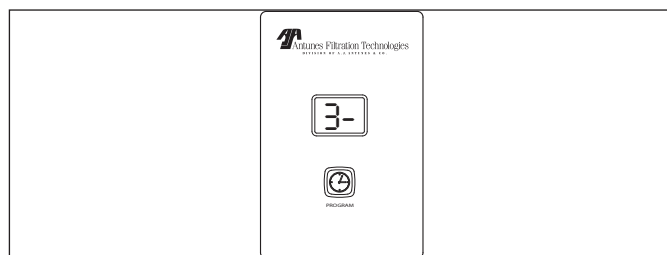

Figure 12. LED Display for Flush Duration
2. When **Fd** is displayed (Figure 12), press and release button to view current setting .